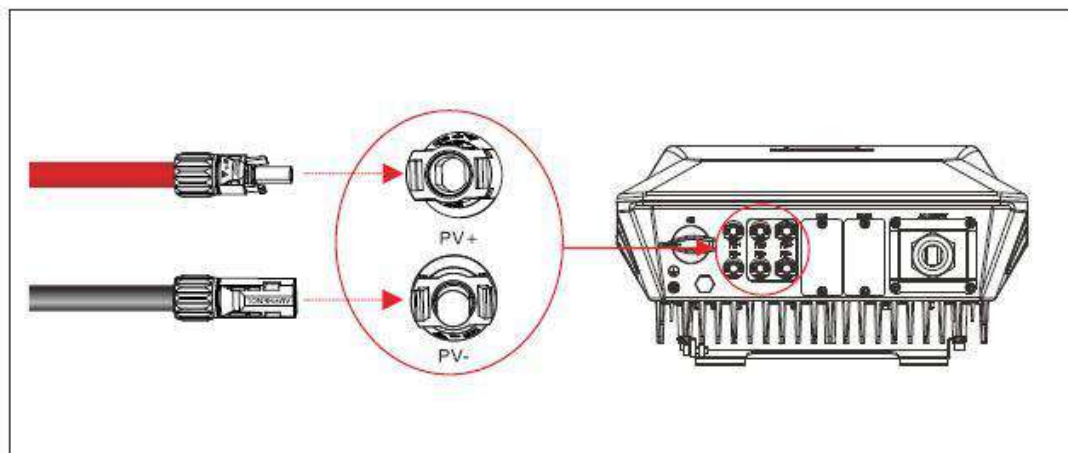

Figure 5.16 Connecting to the inverter
Step 6 Insert the positive and negative connectors into the corresponding connector terminals of the inverter until a "click" sound is heard, as shown in Figure 5.16.